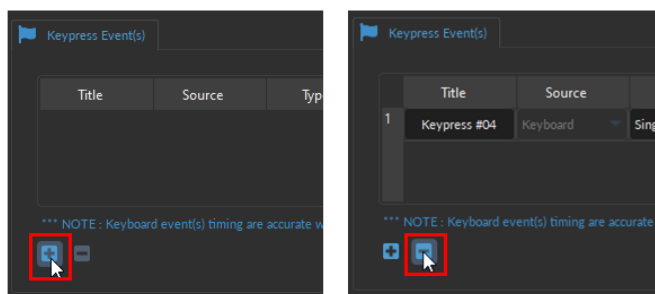

Figure 6.10: Adding and Removing Keypress Events
To add a new **KeyPress Event**, select the + sign at the bottom of the window (Fig. 6.10, left). To remove a Keypress, use the - button (Fig. 6.10, right).
- **NOTE:** Selecting the + button (without clicking the *Add* or the *Close* buttons of the *Channel Configuration* window) will **automatically** add the Keypress Event channel at the **bottom** of the Acquisition View window, below the video feed (Fig.6.10).